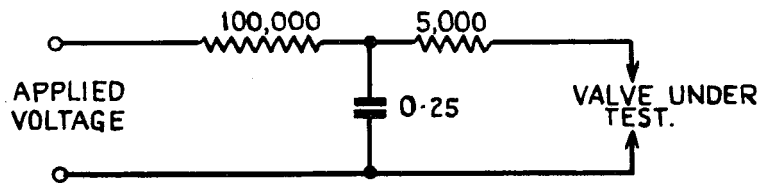

FIG. 1.
- :- Tests (a) and (b) form part of the processing of the valve, and having been met during manufacture they shall not be repeated for acceptance testing. For these hot flash tests, the applied voltage shall be supplied through a circuit as in Fig.1, page 3.